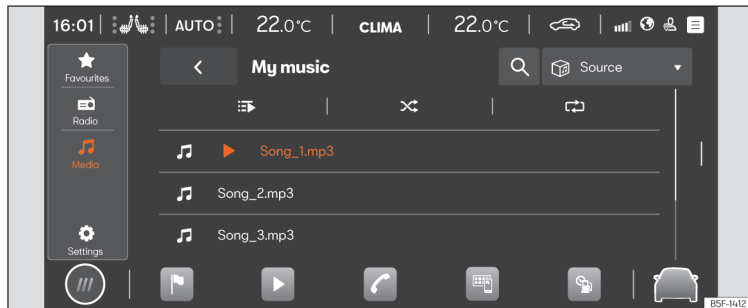

Fig. 169 Schematic diagram: Media view
- Press **HOME** > ► > 🎵 >>> Fig. 169.